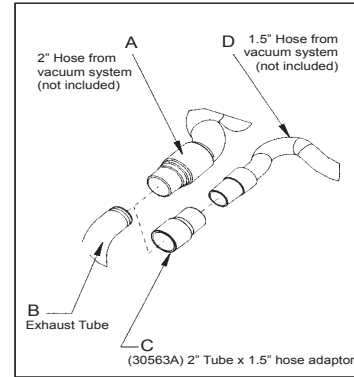

Figure 1
1. Install 2" hose end (figure 1, A) directly over the exhaust tube (figure 1, B).
1. Install the 2" x 1 1/2" hose end adaptor (Part No. 30563A) (figure 1, C) over the exhaust tube (figure 1, B).
2. Insert 1 1/2" hose end (figure 1, D) into the adaptor (figure 1, C).